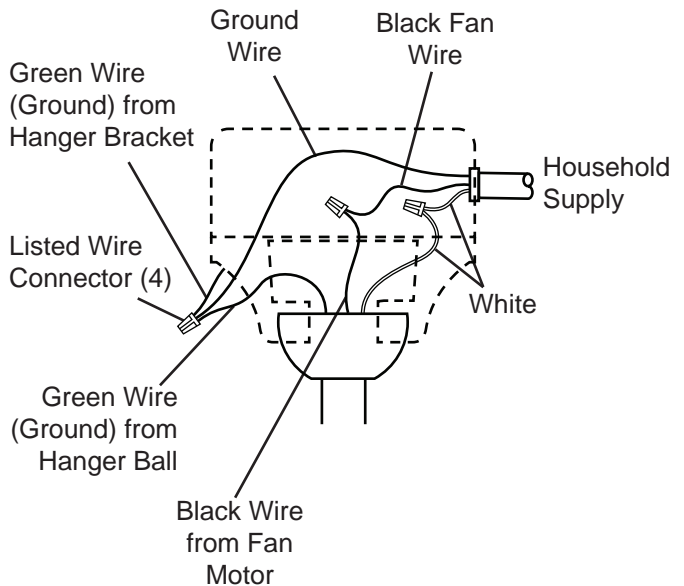

Fig. 9
2. Securely connect the white fan motor wire to the white supply (neutral) wire using wire connector supplied (Fig. 9). Securely connect the black fan motor wire to the black supply wire using wire connector supplied (Fig. 9). After connections have been made, turn leads upward and carefully push leads into the outlet box, with the white and green leads on one side of the outlet box and the black leads on the other side of the outlet box.